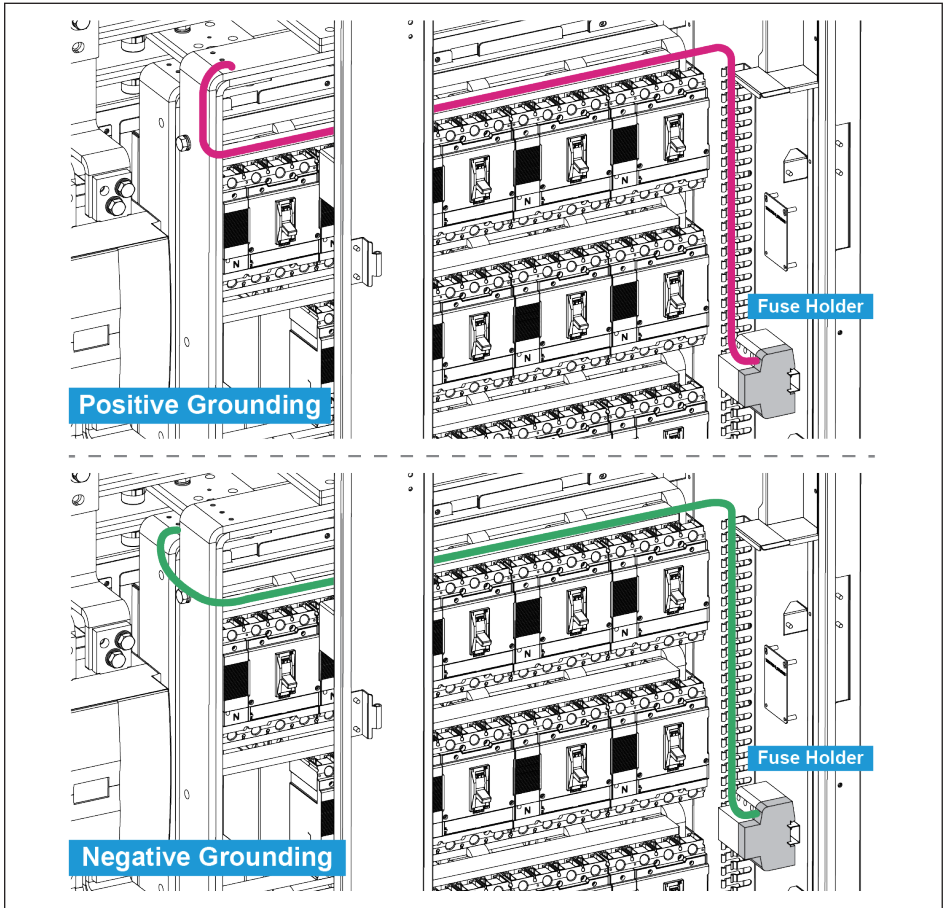

Figure 4-5 : Configure to Positive (DC+) / Negative (DC-) Grounding
1. Thread the AC power cables through the bottom plate of AC side that is shown in **Figure 4-5**.